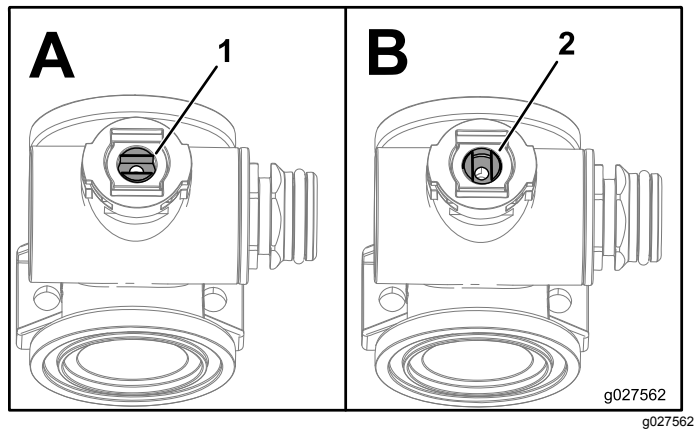

Figure 111
- Turn the valve-stem assembly so that the valve is closed (B of Figure 111).